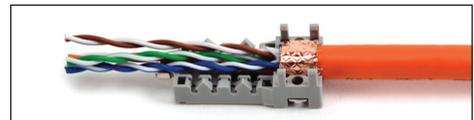

Figure 6
4.1 Set cable onto the cover module so the conductive tape fits into the ground. (Figure 6)